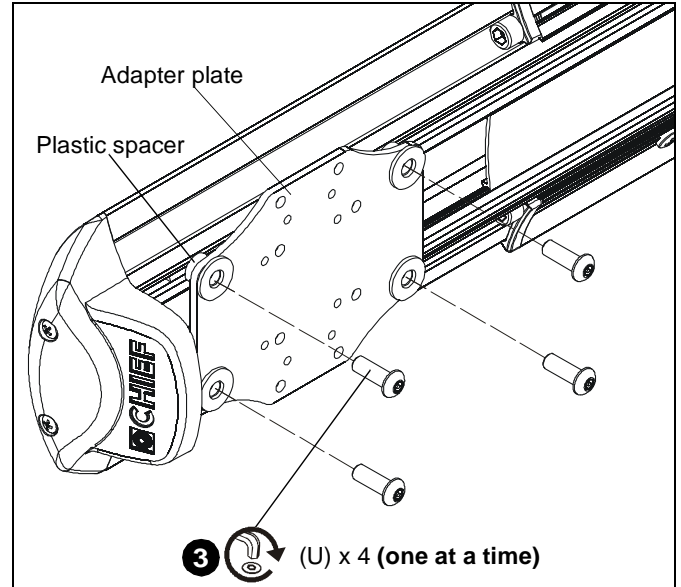

Figure 75
3. Install one 1/4-20 x 3/4" button head security screw (U) into hole (vacated by removed bolt in previous step) and into plastic spacer. (See Figure 75)